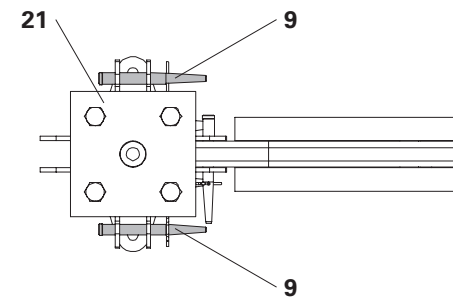

Fig. F3.03a
The lifting gear is attached to 4 lifting pins $\varnothing 21 \times 120$ (9) which are mounted on the prop connector VST 48 (21). (Fig. F3.03a)